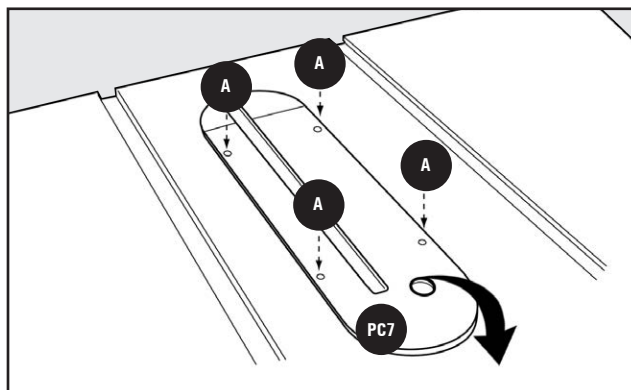

FIGURE 11
1. To install Throat Plate **PC15**, lower Blade below Tabletop, then carefully feed the Throat Plate, slotted end first, from the rear of the Table to the front, keeping the Blade centered within the slot on the Throat Plate. See Figure 11. The Throat Plate should rest within the cavity in the Tabletop.